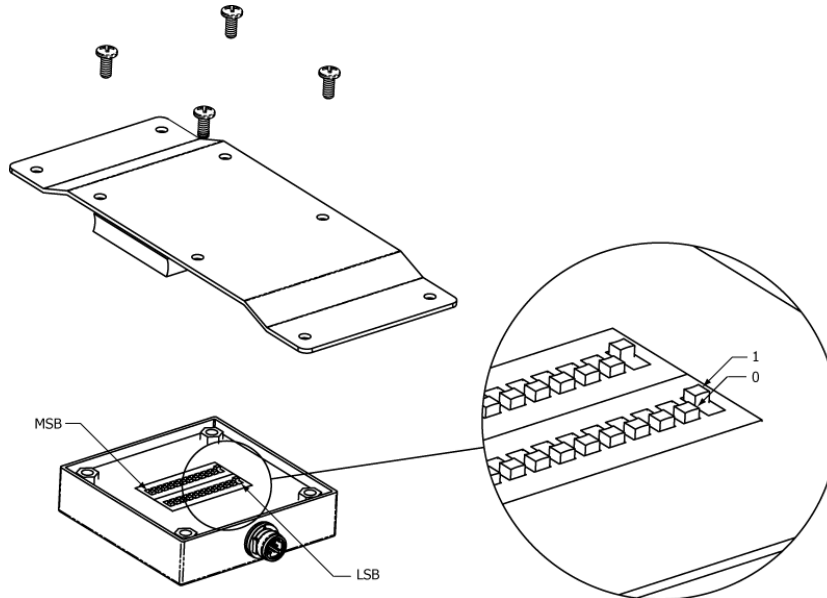

Figure 10 24-Bit Address Switch Block
- Set the 24-bit address switch block switches as appropriate for the 24-bit address binary code determined in the previous step. See Figure 10 24-Bit Address Switch Block on page 25.